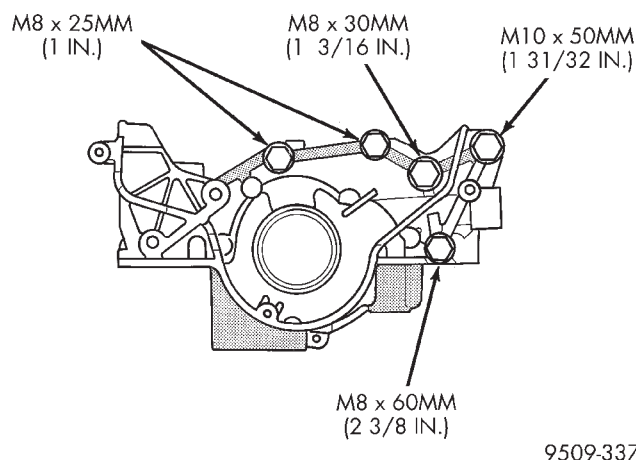

Fig. 76 Oil Pump Assembly
(1) Remove accessory drive belts. Refer to Group 7, Cooling System for procedure.
(2) Remove crankshaft damper. Refer to procedure in this section.
(3) Remove Timing Belt. Refer to procedure in this section.
(4) Remove bolts that attach oil pump to block (Fig. 76).
14 N·m (10 ft. lbs.) M10 bolts 41 N·m (30 ft. lbs.). See (Fig. 76) for bolt location and length.